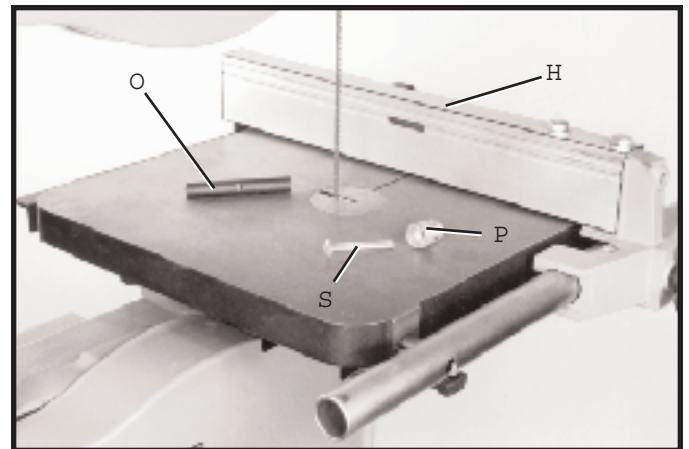

Fig. 47
2. Thread knob (P) Fig. 47, onto 2 long screw (S) and tighten with a flat-bladed screwdriver.